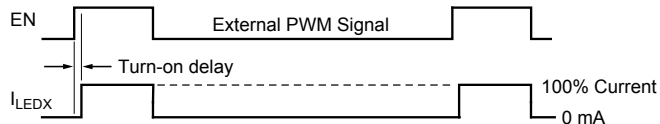

Figure 2: Timing Diagram of External PWM Signal and LED Current
- PWM dimming using the EN pin. PWM dimming is performed by applying an external PWM signal on the EN pin. When the EN pin is pulled high, the A8501 turns on and all enabled LEDs sink 100% current. The sequence is shown in Figure 2. For optimal accuracy, the external PWM signal should be in the range 100 to 300 Hz. The slight delay between PWM signal and the LED current causes an error. To compensate for the error, a small turn-on delay should be added to the PWM signal as shown on page 10 of the Performance Characteristics section. When EN is pulled low, the boost converter and LED sinks are turned off. The compensation (COMP) pin is floated, and critical internal circuits are kept active. If EN is pulled low for more than tPWML, the device enters shutdown mode and clears all internal fault registers. As an example, for a 2 MHz clock, the maximum PWM low period while avoiding shutdown is 65 ms.